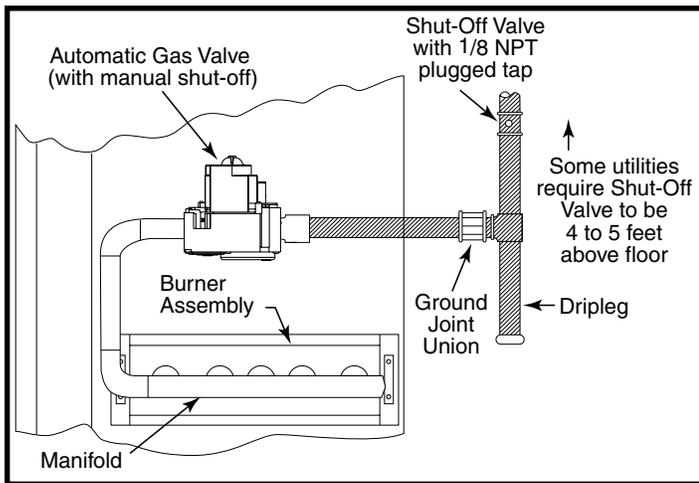

Figure 8. Typical Gas Hookup - Right Side Entry
- Some local codes require the installation of a manual main shut-off valve and ground joint union external to the furnace. See Figure 8 \(page 16\). The shut-off valve should be readily accessible for service and/or emergency use. Consult the local utility or gas supplier for additional requirements regarding placement of the manual main gas shut-off.
- A drip leg should be installed in the vertical pipe run to the unit. See Figure 8 \(page 16\).
This unit only has right side gas entry. When connecting the gas, provide clearance between the gas supply line and the entry hole in the unit's casing to avoid unwanted noise and/or damage to the unit. A typical gas service hookup is shown in Figure 8.